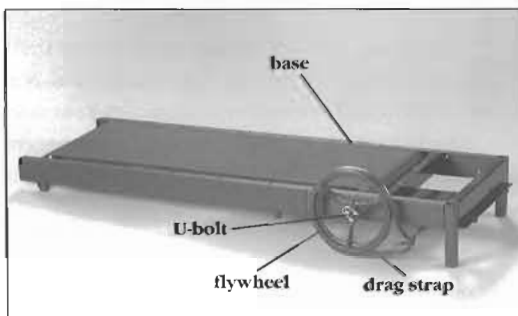

Figure 1
- 1 Base (Figure 1 shows the flywheel and drag strap attached to the base. You will need to attach these parts according to the instructions beginning on page 3.)
- 1 Flywheel (Figure 1)
- 1 U-bolt (Figure 1)
- 1 Drag strap (Figure 1)